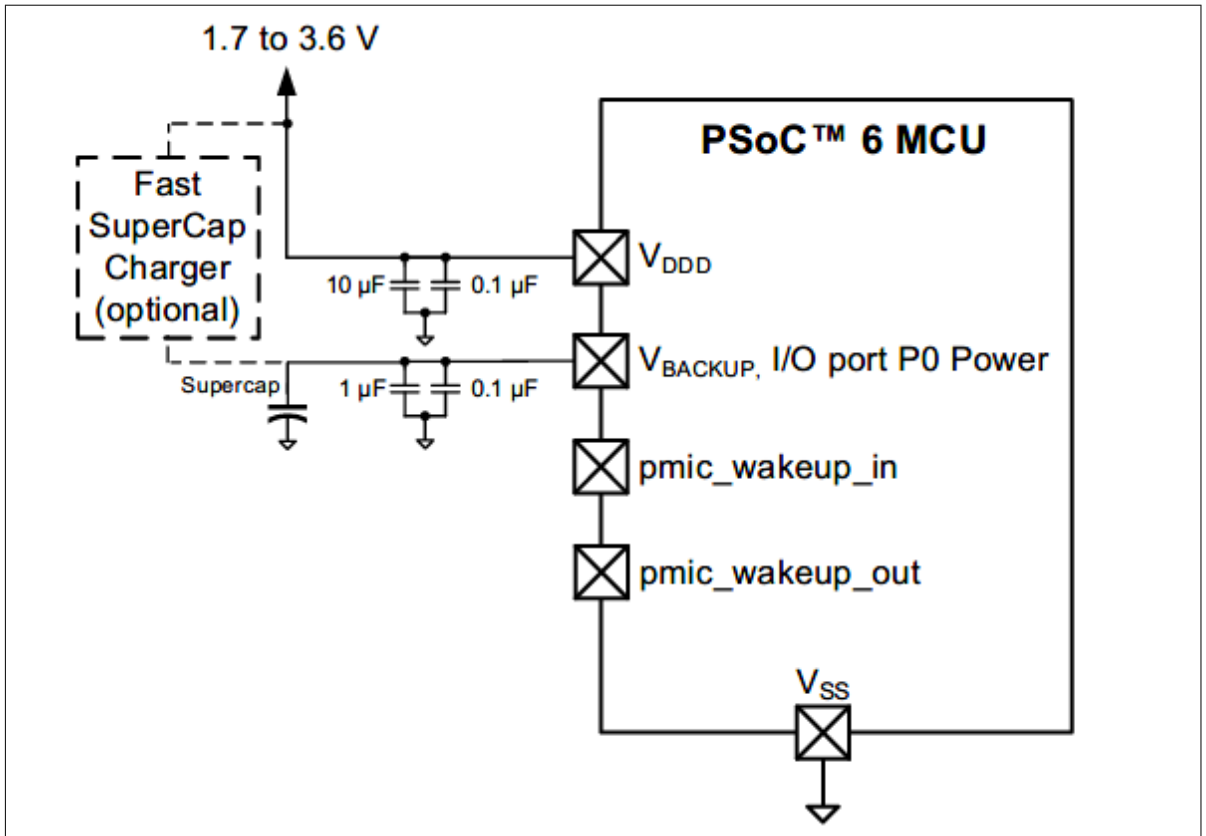

Figure 14 Backup domain supercapacitor connection Backup domain battery connection
2. **V_{BACKUP} powered by supercapacitor** – When a supercapacitor is used as the V_{BACKUP} supply as shown in Figure 14, there are two options for recharging it. By calling the `Cy_SysPm_BackupSuperCapCharge()` PDL function, the internal charge circuit is enabled any time the V_{DDD} supply is selected as the active V_{DDBAK} supply